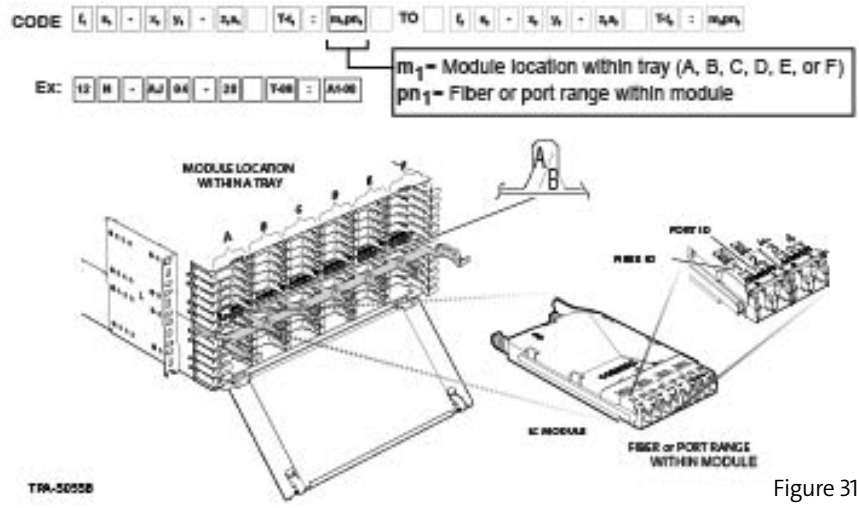

Figure 31 — Module Label Location
**Step 4: Module Location with Fiber or Port Range (Figure 31)**